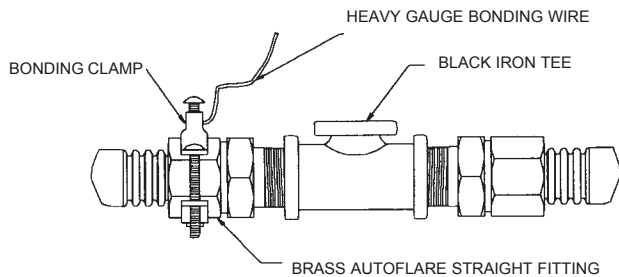

Figure: 4-25
1. For bonding of the conventional yellow-jacketed **TracPipe**® system, a bonding clamp must be attached to the brass **AutoFlare**® fitting adapter (adjacent to the pipe thread area – See Figure: 4-25) or to a black pipe component (pipe or fitting) located in the same electrically continuous gas piping system as the **AutoFlare**® fitting. The corrugated stainless steel portion of the gas piping system SHALL NOT be used as the bonding attachment point under any circumstances. The bonding conductor shall be bonded per the Canadian Electrical Code (C22.1) Section 10-406(4).
- a. If possible, avoid running the bonding jumper a long distance through the building. The connection should be as short as possible. Gas meter should be near the electrical service if possible. If not, the bond can be connected at any point near the electrical service per Figure: 4-25.